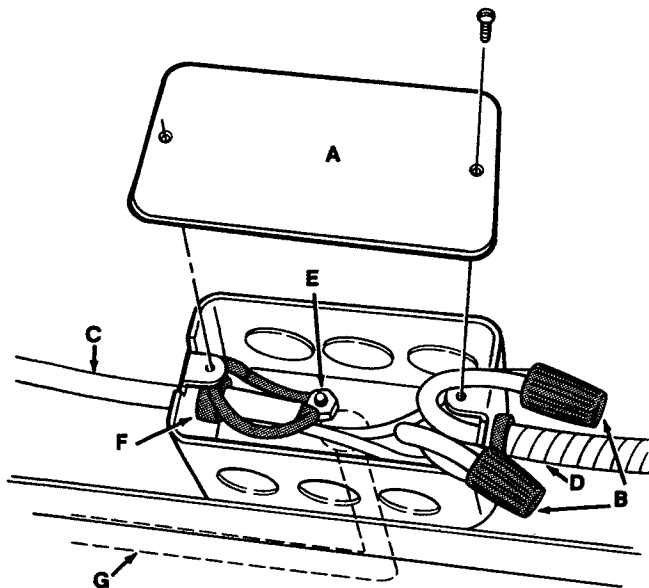

Figure 6. Floor Model Junction Box
B. Floor Model. (Fig. 6)
2. Remove cover plate (A) from the junction box on freezer base.
3. Remove wire nuts (B) from power cord (C) and wire harness (D).
4. Unscrew ground wire from green grounding screw (E).
5. Remove strain relief bushings (F), holding power cord. Then remove power cord from the two 7/8 inch (2.22 cm) holes.